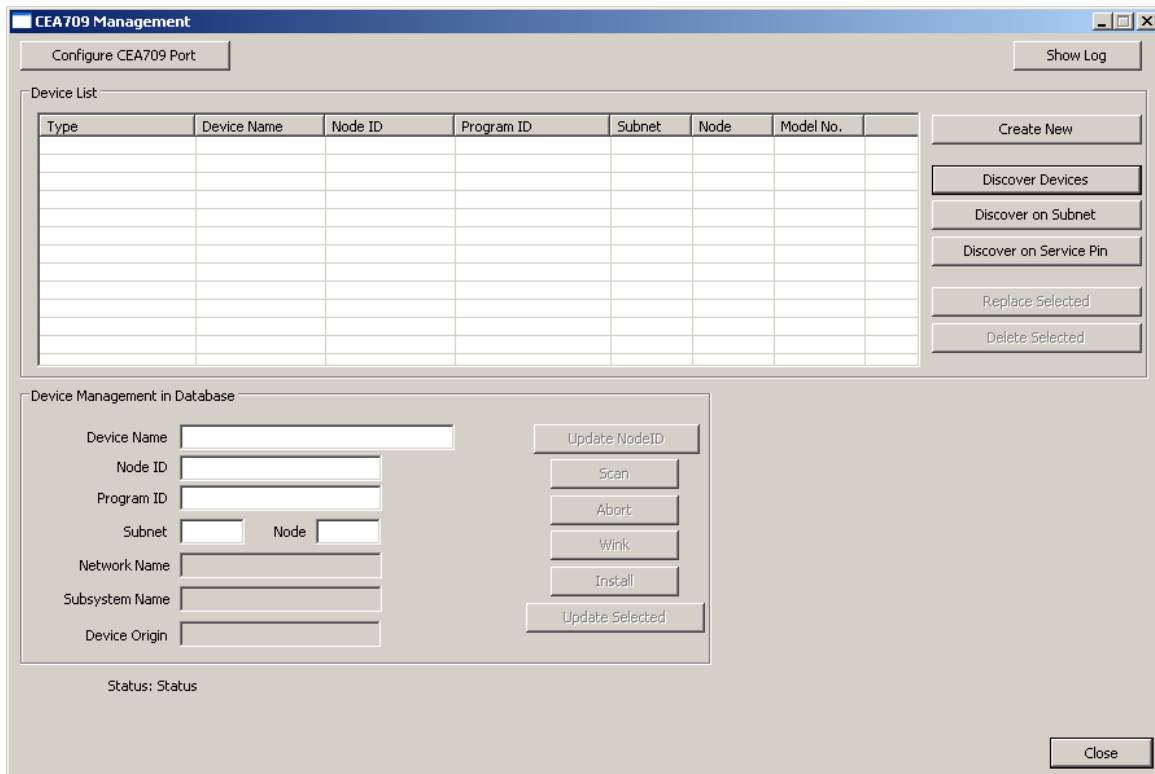

Figure 90: CEA-709 network scan dialog.
- Right-click on that folder and select **Scan CEA709/852 Network....** This opens the **CEA709 Management** dialog as shown in Figure 90.